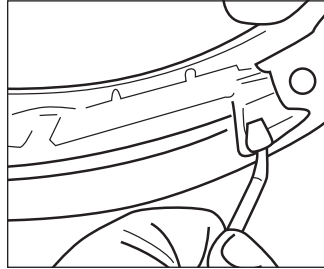

Figure 25
2. Carefully insert the battery wire into the port on the LED assembly (Figure 25).